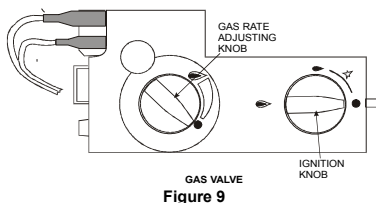

Figure 9
2. With the gas available at the valve press in the IGNITION KNOB and turn it anticlockwise to the pilot flame position (see **Figure 9**). A click of the piezo igniter will be heard and a spark will appear at the electrode. At the same time the gas will flow to the pilot burner and will be ignited by the spark. Repeat the procedure until the pilot flame is established.